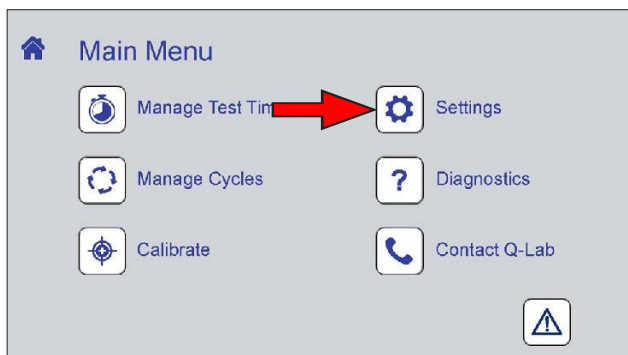
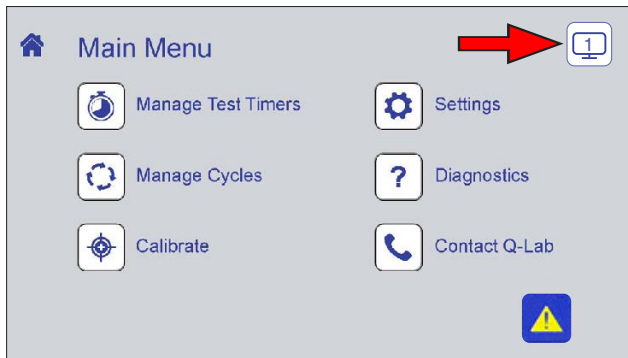

Figure 9.7a: Touch the Settings icon on the Main Menu screen to display settings controls.
Figure 9.7x: Main Menu in single screen mode. Touch the screen icon.
- On the Main Menu screen touch the Settings icon (Figure 9.7a) to display the Settings screen.
- o A button appears in the upper right corner of the screen to toggle the remaining screen between Main Menu and Status displays (see Figure 9.7x through Figure 9.7aa).
Figure 9.7aa: Touch the Menu Screen icon to display the Menu Screen.